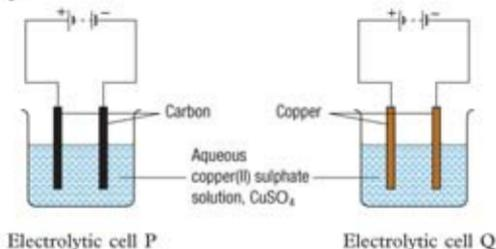

Figure 1
1. Figure 1 shows an apparatus set-up to study the electrolysis of an aqueous copper(II) sulphate solution,  $\text{CuSO}_4$  using different electrodes as shown in electrolytic cell P and electrolytic cell Q.